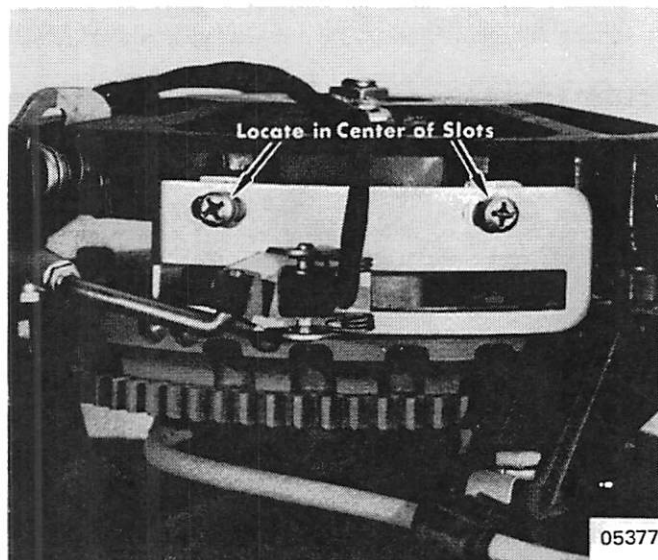

Figure 1. Position of Trigger Plate
1. Check that trigger pickup in trigger plate is positioned approximately in center of elongated slots. (Figure 1)
3. Check that trigger gap between trigger pickup head and trigger housing (Figure 1) is .050" - .060" (1.27mm - 1.52mm). Adjust, if necessary, by shimming trigger plate to starter housing.